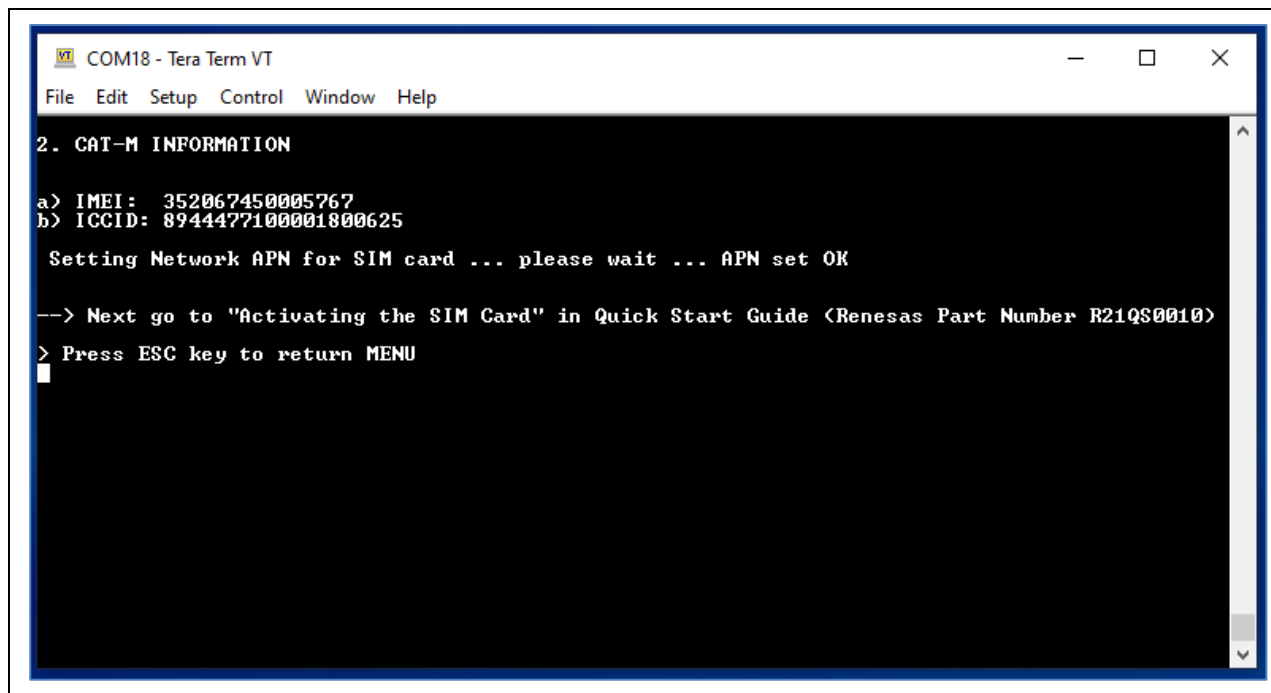

Figure 11. RYZ024A PMOD Information
8. Enter the **ICCID** value obtained from the **Running the RYZ024A PMOD example project** section. See the **ICCID** value in Figure 11, RYZ024A PMOD Information. Fill other fields as needed.